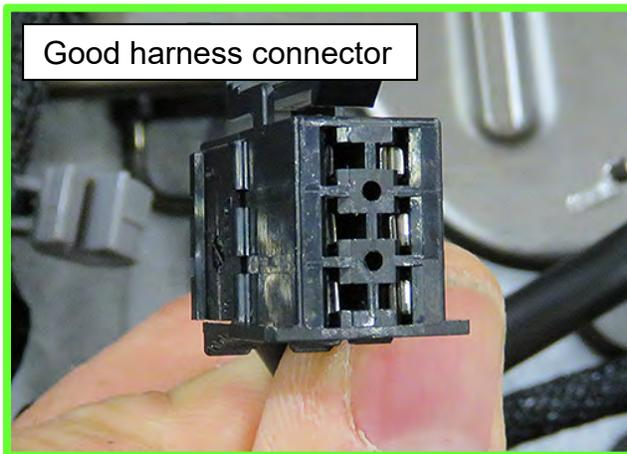
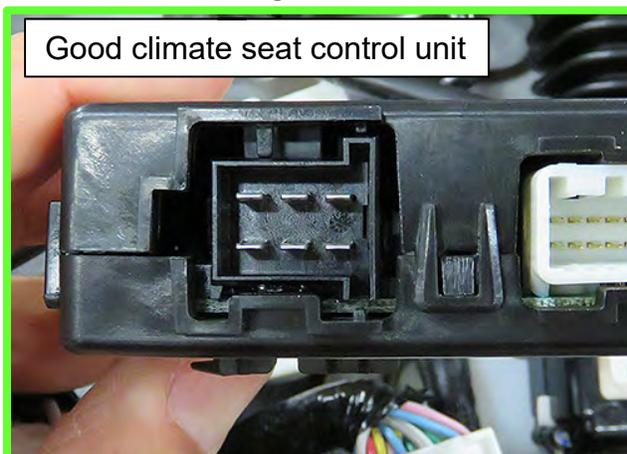

Figure 2
Figure 4
- If the harness connector and the control unit appear similar to Figure 2 **and** Figure 4 (**Good harness and connector**), this bulletin does not apply. Refer to the ESM for additional diagnostic information.